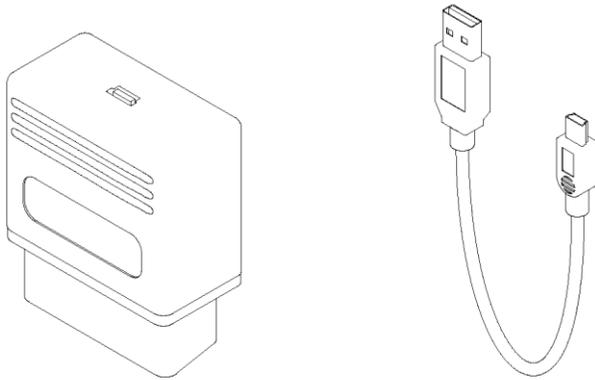

Figure 1
- If the Hex Flash tool (24) shown in (Figure 1) was not purchased, fill out the ECU return form and send the form with the ECU to VF-Engineering.